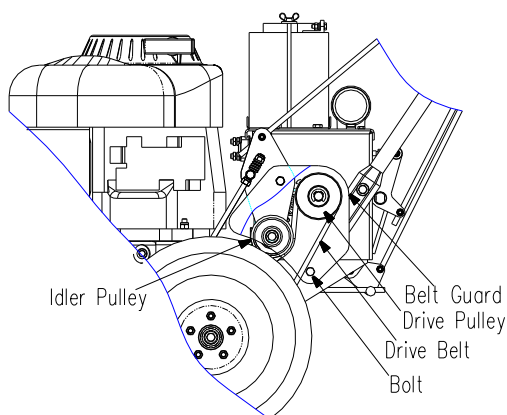

FIG 12
- Adjusting control rod: Remove hair pin on the top of control rod, pull out the control rod from steering lever, turn the control rod so that the length of two control rods is the same and reinstall all parts in proper order. (See FIG 12)